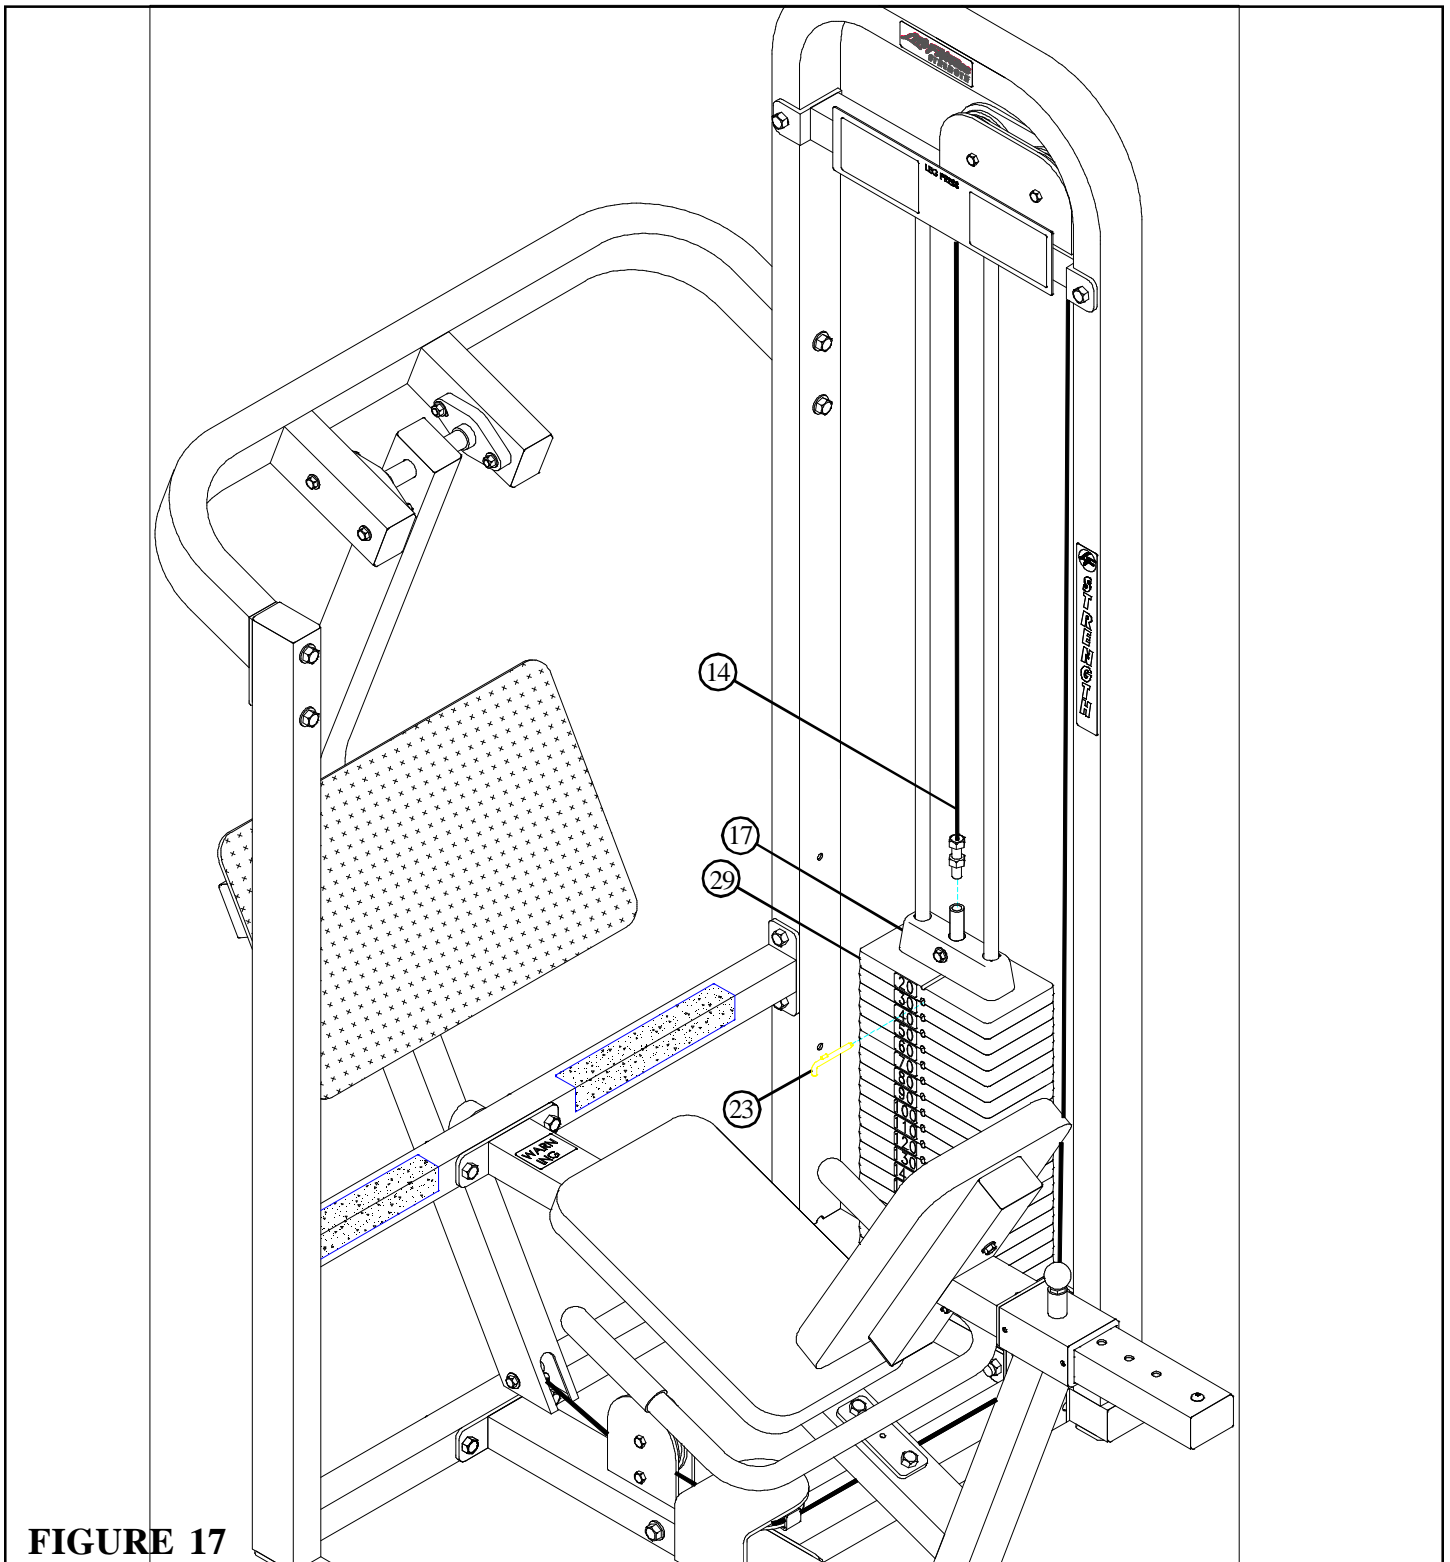

FIGURE 17
- Screw the threaded end of the CABLE (14) approximately 3/4" into the end of the 20 HOLE SELECTOR SHAFT (16) and tighten jam nut securely. See FIGURE 17.
- If the HEAD PLATE (17) does not sit on top of the first WEIGHT PLATE (29), push the head plate down, insert the SELECTOR PIN (23) and perform several repetitions on the machine. This will relax the cable system and prevent the HEAD PLATE (17) from lifting up.
- If after completing the previous step the HEAD PLATE (17) still does not sit on top of the first WEIGHT PLATE (29) or if there is excess slack in the cable system, adjust the threaded end of the CABLE accordingly and retighten the jam nut.